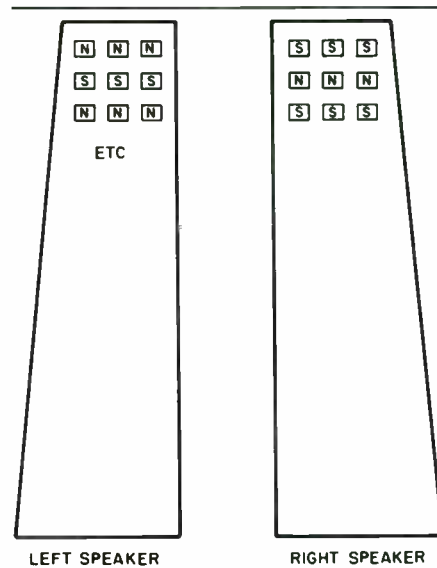

FIGURE 2: Magnet pattern for woofer.
**Step 4.** The magnet pattern for the woofer is shown in Fig. 2. Place a row of north poles, then south poles, and so on. The poles point outward. You don't have to know the polarity but define the first row as "north" and continue from this assumption. The relative polarity is easily determined by holding a magnet and noticing attraction or repulsion.